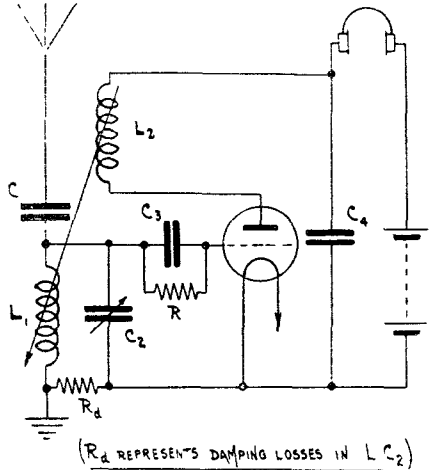
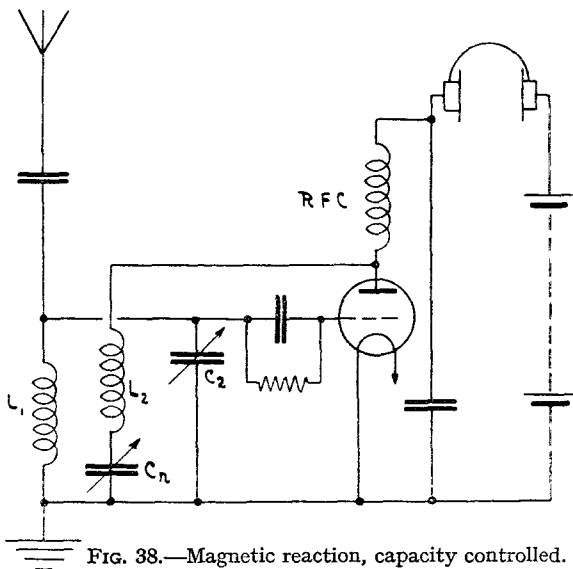
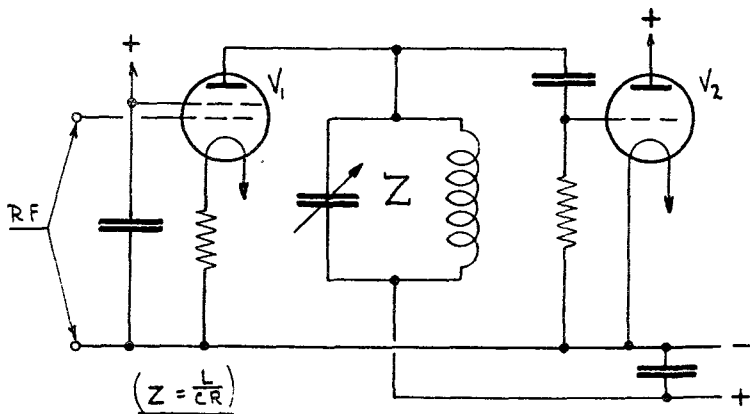

FIG. 36.—Autodyne.
FIG. 38.—Magnetic reaction, capacity controlled.
FIG. 44.—R.F. amplifier.
The reception of C.W. may also be accomplished by allowing the grid circuit detector to generate its own oscillations (in a manner to be described later), by using a circuit similar to fig. 36. In this case the receiver itself must be mistuned to the incoming C.W. signal by, say, 1 kc/s, so that "self heterodyne" may take place. In fig. 36 the coil L_2 is coupled to L_1 so as to hand over R.F. energy from anode to grid circuit. This energy is used to overcome the damping losses in the grid circuit, so that it may remain in continuous oscillation and permit "autodyne" reception of C.W.
5. Reaction.—In fig. 36, if L_2 is coupled to L_1 less tightly, so that circuit does not actually generate oscillations, R.F. energy will still be fed back into the grid circuit, and will make up for the damping losses there, but to a less
6. **The Reaction Control** may take several forms. Fig. 36 is not a practical arrangement and may be modified so that the control of reaction is provided by a condenser (C_r) (fig. 38).
"Tuned anode" coupling is almost invariably used in the R.A.F., the resistance of fig. 38 being replaced by the "dynamic resistance" ($\frac{L}{CR}$) of a tuned circuit as in fig. 44. This gives high selectivity, and the stray capacities become part of the tuned circuit. Screened tetrode or pentode valves are invariably used in R.F. amplifiers for the reasons explained in Chapter 5.